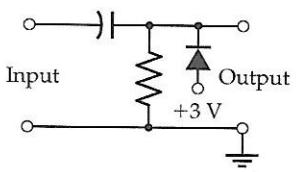

Figure 3-63 Diode clamping circuits for Problem 3-56.
- 3-56** Sketch the output waveforms from each of the circuits in Fig. 3-63 when a ± 15 V square wave is applied at the input.